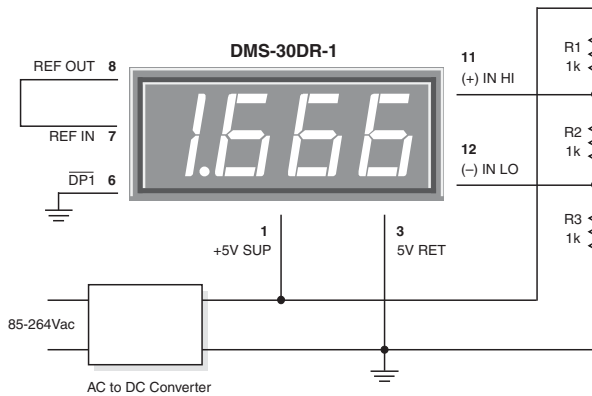

Figure 3. Differential Input Configuration
2. Differential Input Configurations: Differential measurements can be made with all DMS-30DR meters. Figure 3, though not a practical real-world application, uses a voltage divider to demonstrate the concept of a differential input signal. Be careful not to exceed the ±2V common mode voltage limitation for 5V-powered meters.